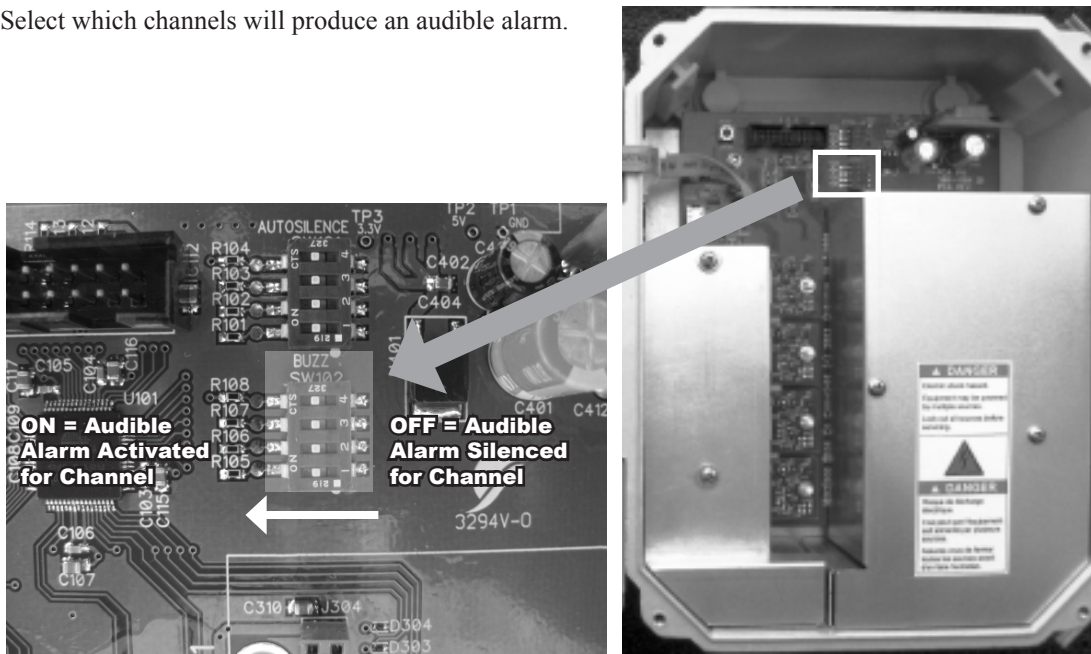

Figure 11 - Motherboard Buzzer Configuration
1. Locate the four position, Buzz DIP switch, SW102, on the Motherboard (see Figure 11).